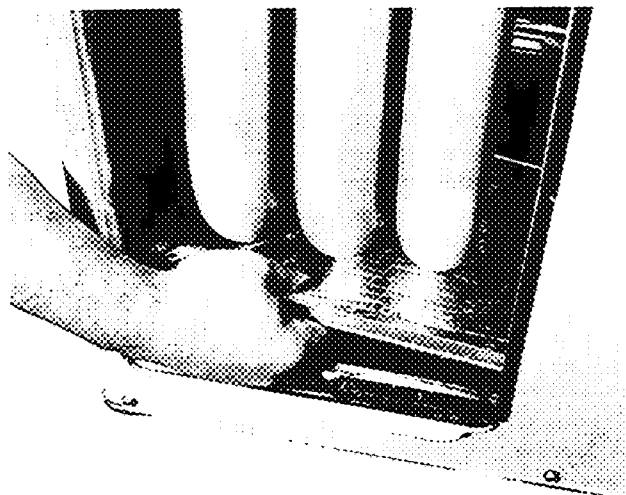
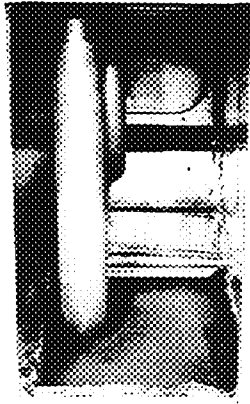

Fig. 16 — Removal of Vertical Discharge Opening Cover
Fig. 17 — Vertical Discharge Cover Removed
6. Remove and discard the 2 screws securing the vertical discharge opening cover (Fig. 16) to the basepan. Slide cover forward to disengage, then tilt and remove cover through vertical discharge opening in bottom of unit. Discard the cover (Fig. 17).